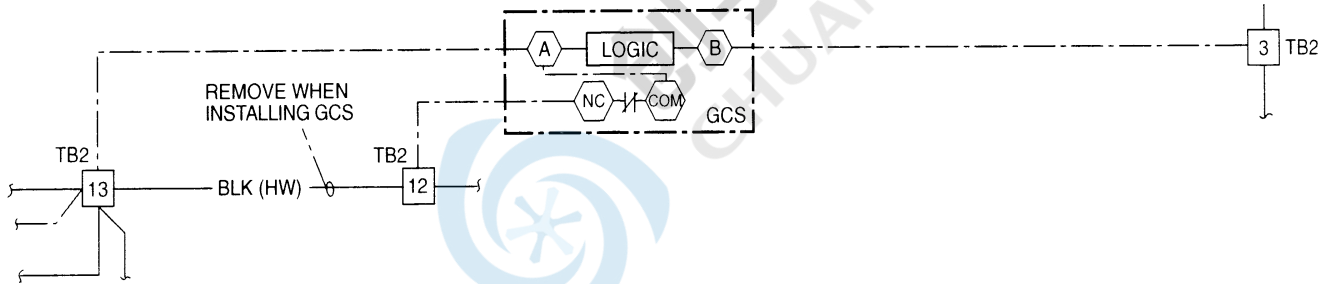

Fig. 2 — 30HW Ground Current Sensor Field Control Wiring, Temperature Controller
2. Remove black wire between TB2-12 and TB2-13 (see Fig. 2).
9. See Fig. 2 for wiring connections.